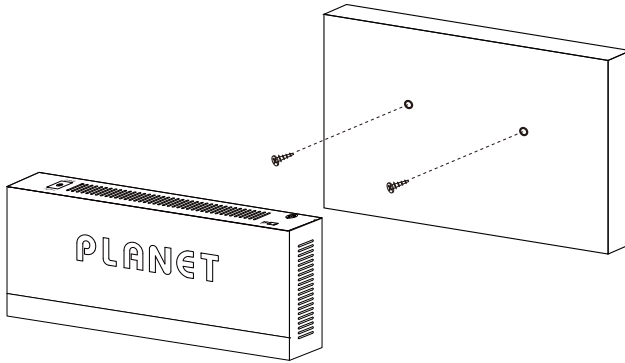

Figure 3-3: PoE Ethernet Switch Wall Mount Installation
Step 1: There are 2 holes with 5mm diameter on the wall; the distance between the 2 holes is 110mm and the line through them must keep horizontal, as shown in Figure 3-3.